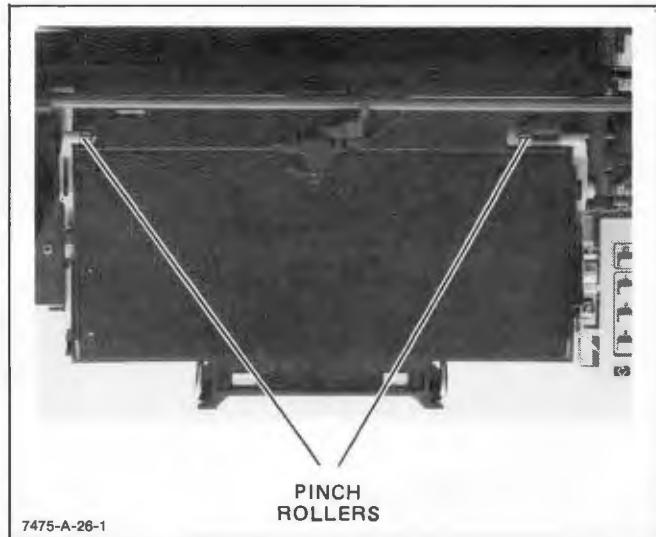

Figure 8-26. Pinch Rollers
- b. Remove the retaining ring that secures the pinch roller. See Figure 8-26.